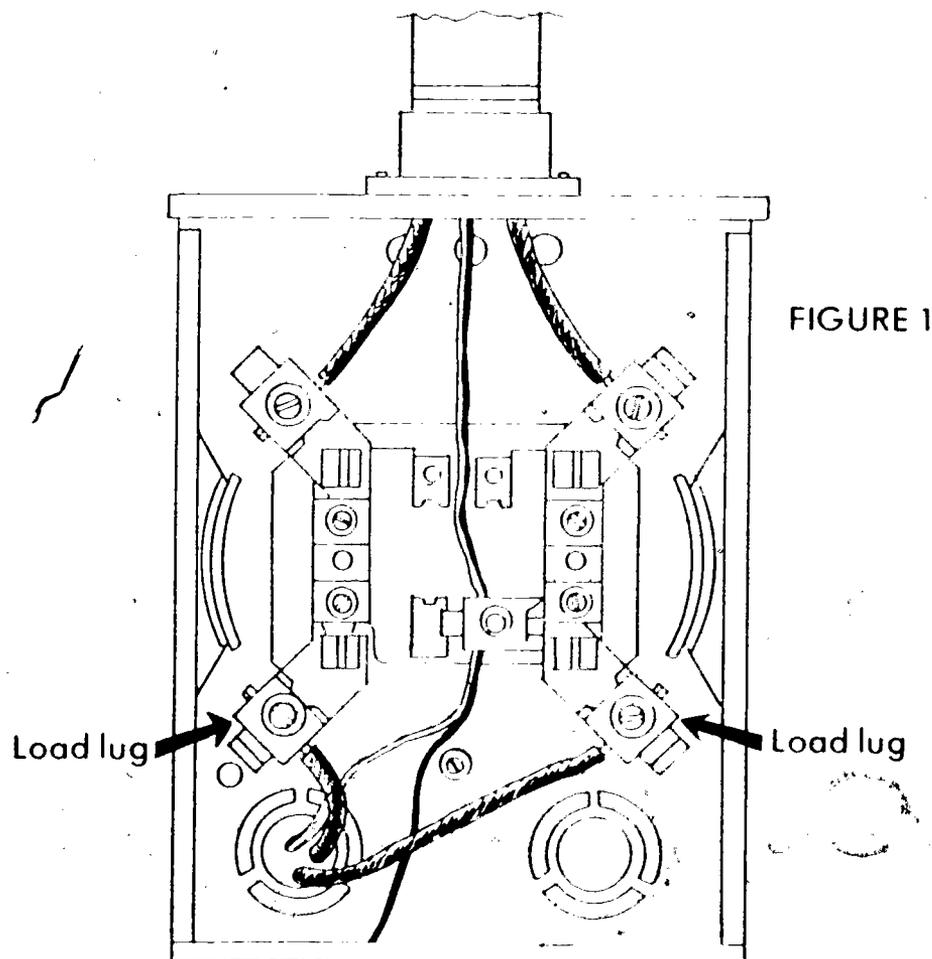

FIGURE 1
- H. Remove ungrounded conductors from load side (Figure 1)